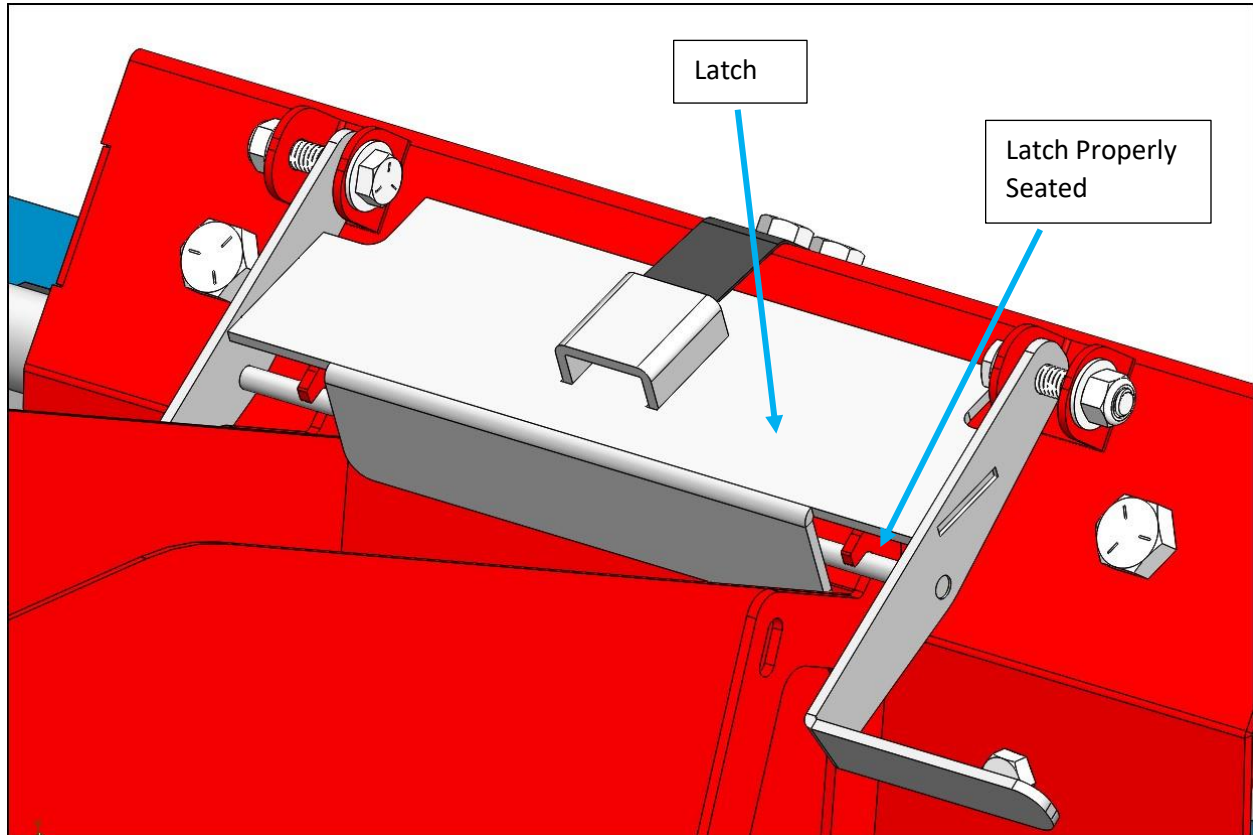

Figure 7 – Showing the Latch Properly Seated. Note That the Latch Bar is Fully Seated on the Bucket Hook.
- Inspect the bucket prior to taking a sample and dump it out if any material is present. Also, ensure that the latch mechanism is properly seated so that the bucket does not come loose during the taking of a sample. See Figures 7 and 8.